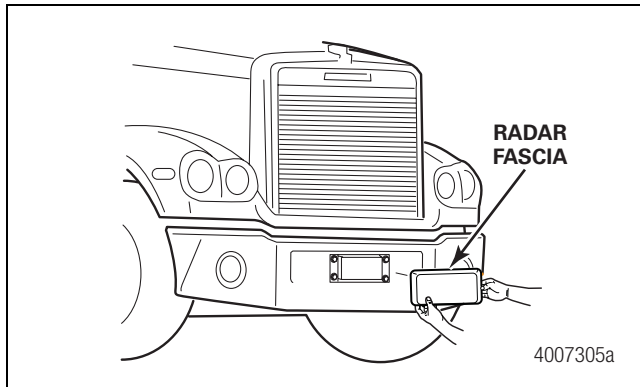

Figure 3.4
13. Replace the fascia using the bolts removed during sensor removal. Figure 3.4. The fascia must be mounted with the indented "chin" positioned facing the radar electrical connector location. If the radar harness connector is on the top of the radar, the radar fascia should be oriented so the wording "OnGuard™" is on the top and is rightside up. If the radar harness connector is on the bottom of the radar, the radar fascia should be oriented so the wording "OnGuard™" is on the bottom and is rightside up. If the fascia has a "chin" rather than the "OnGuard" wording, the "chin" should be oriented over the radar connector, either on the top or on the bottom respectively.